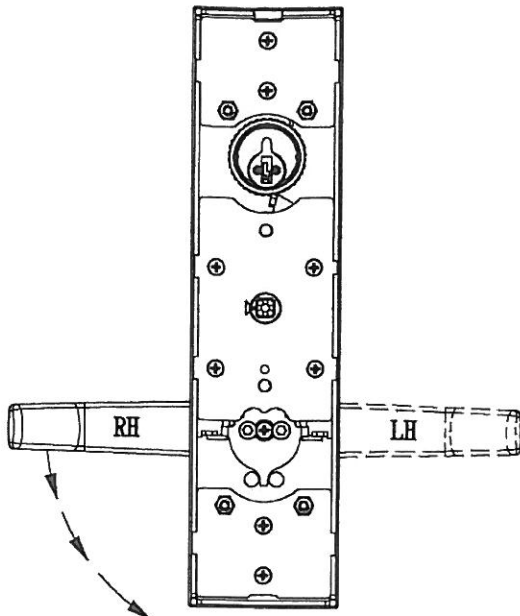

Fig. 1
2. Turn lever handle to right or left direction to meet door handing.(Fig.1)